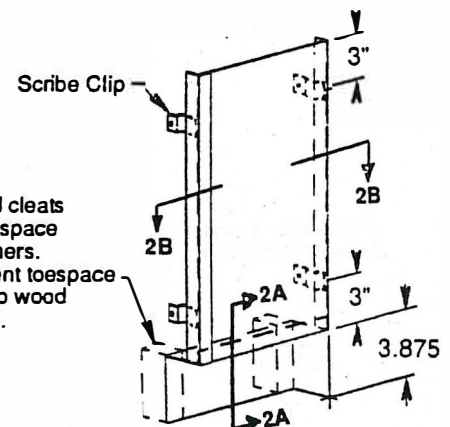

Figure 2
2. Base Unit Filler (6" wide or wider). Figure 2, Section 2A & 2B.